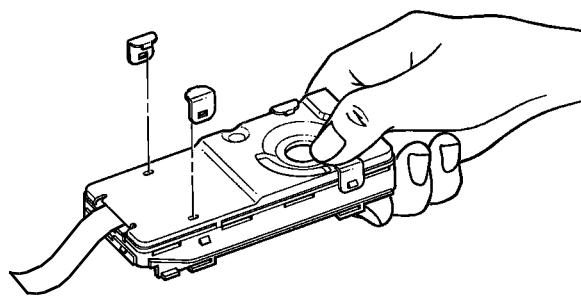

Figure 1-13. Reinsert Locking Clips
- Hook locking clips first to the chassis tab, then push clips over on shield with thumb until clips lock into front shield holes (Figure 1-13).